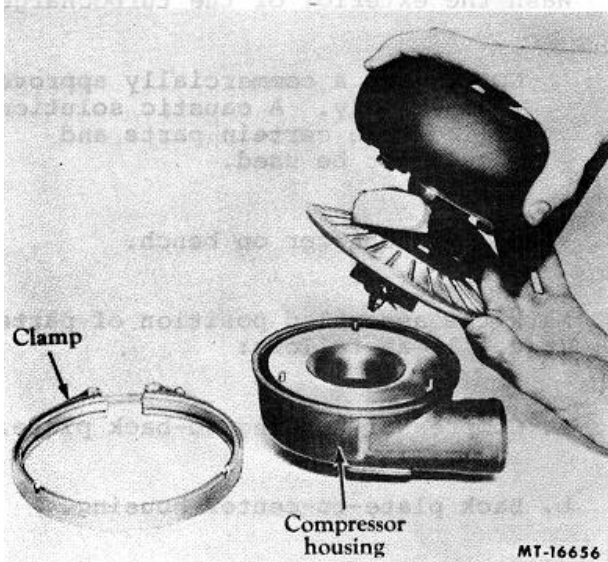

Fig. 12 Removing Compressor Housing
4. Remove the clamp or capscrews and lock plates and stand the turbocharger on the bench as shown in Fig. 12. Carefully lift the turbine housing with center housing attached from the compressor housing. A light